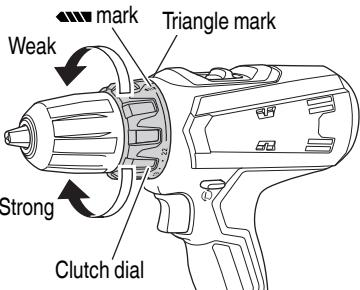

Fig. 11
## 6. Confirm the clutch dial position (See Fig. 11).
### (2) Tightening torque indication (See Fig. 11)
### (3) Adjusting the tightening torque (See Fig. 11)